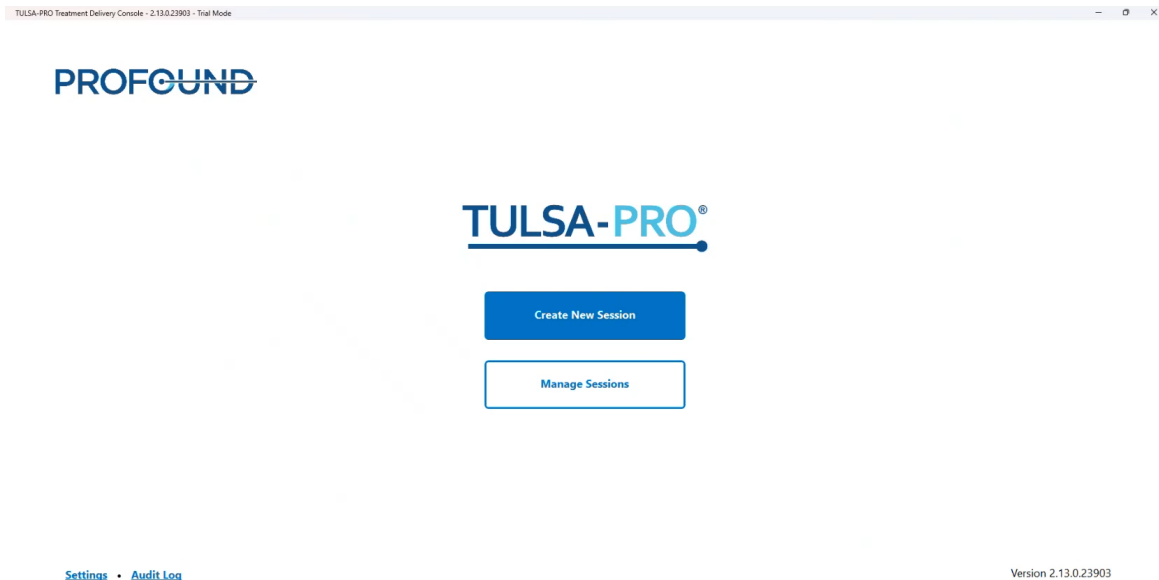

Figure 6: TULSA-PRO Start Screen
2. The **Start Screen** will appear (*Figure 6*). Click **Create New Session**.